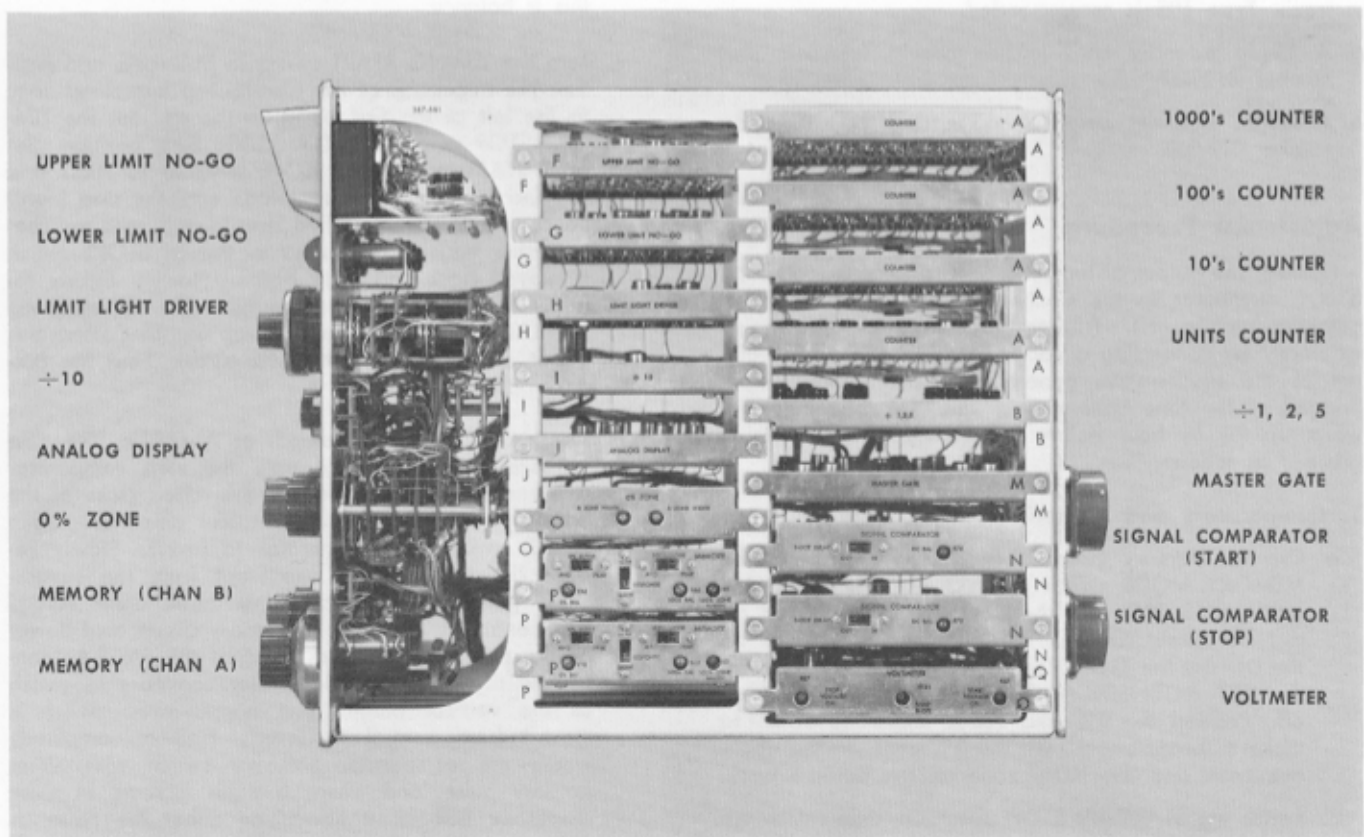

Fig. 6-1. Circuit card identification.
- a. On the Memory circuit cards (see Fig. 6-1) set the MEMORY MODE switch to AVG and the RESPONSE switch to SLOW. Set the square-wave generator for a 1-mc output. Display two complete waveforms on the crt. Set the Type 6R1A MODE switch to TIME, and the CRT INTENSIFICATION START TO STOP switch off. Position the 0% and 100% intensified zones to make a measurement with the 0% zone on the negative peak and the 100% zone on the positive peak.